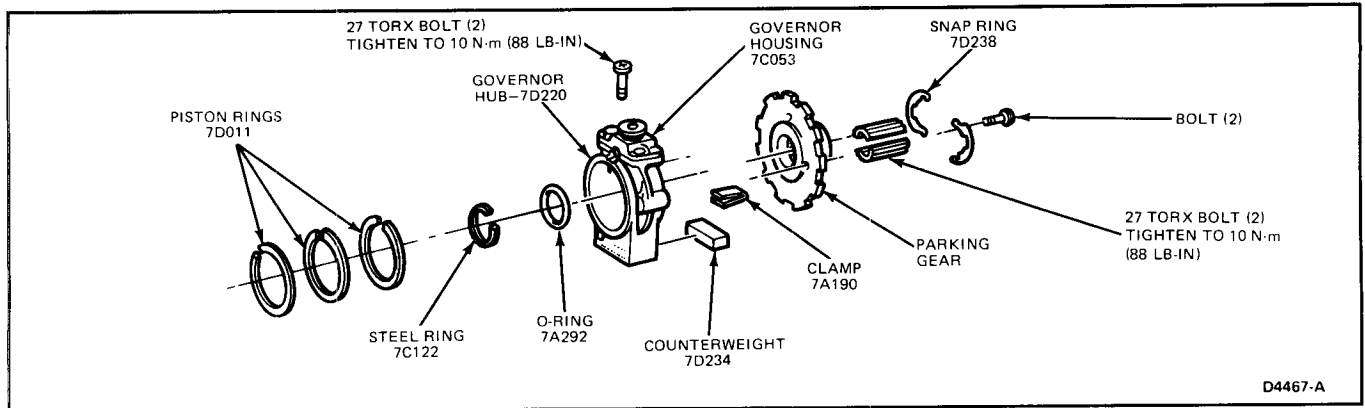

FIG. 25 Extension Housing Assembly—Exploded View
Refer to Fig. 25.
1. Remove the snap ring from the output shaft (Fig. 25).
2. Remove parking gear, governor and split drive ring which is splined to the output shaft (Fig. 25).